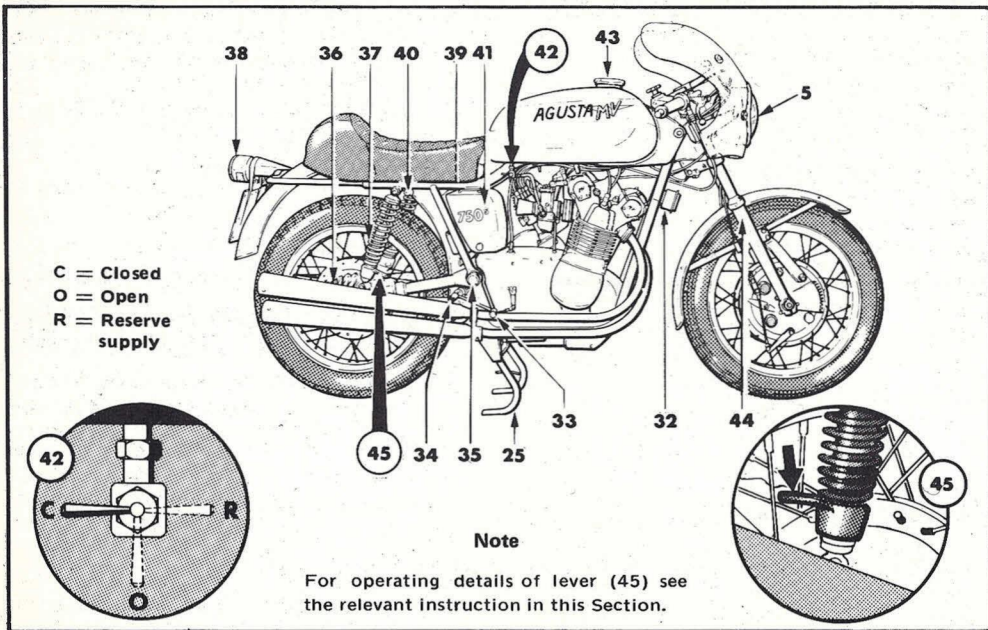

Figure 1-2. Motorcycle main controls and instruments (sheet 3 of 3)
- 24. BATTERY HOLDER — Left side. See Section III "MAINTENANCE — ADJUSTMENTS" for details and (41) for Right side.
- 31. DISC BRAKE HOUSING — Optional. See figure 1-2, sheet 2 of 3 for detail, and see Section III "MAINTENANCE — ADJUSTMENTS" for further information.
Legend figure 1-2 (sheet 3 of 3)